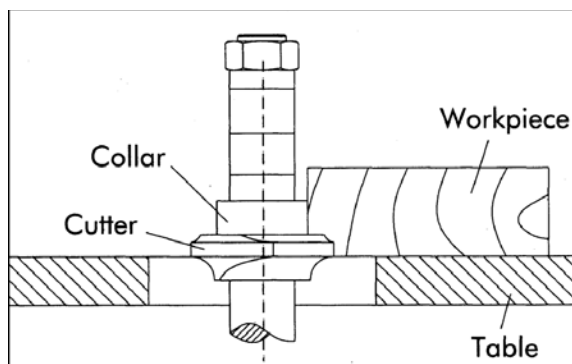

Figure 32
2. When the collar is used above the cutter, as shown in Figure 32, the cut can not be seen, but this method offers an advantage in that the cut is not affected by slight variations in the thickness of the stock. Also, accidental lifting of the workpiece will not gouge the workpiece; simply repeat the operation to correct the mistake.